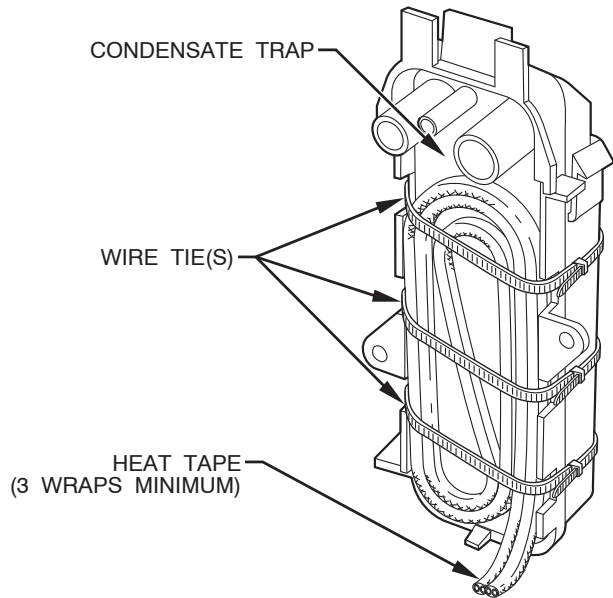

Fig. 47 - Condensate Trap Heat Tape
2. Locate heat tape between sides of condensate trap back. (See Fig. 47.)
3. Use wire ties to secure heat tape in place. Wire ties can be positioned in notches of condensate trap sides. (See Fig. 47.)